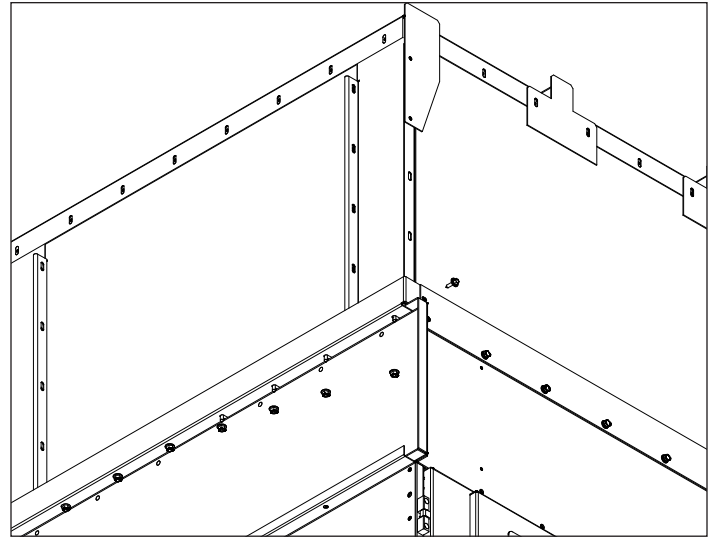

Figure 36. Connecting End Gas Deflectors to Front and Rear
- E Secure the end gas deflector by installing 1/4" nuts over the protruding screws along the underside of the deflector (see **Figure 36**).
- F Ensure the ends of the gas deflector are slid behind the front and rear gas deflectors, and secure in place with 1/4" self-tapping screws. (see **Figure 36**).